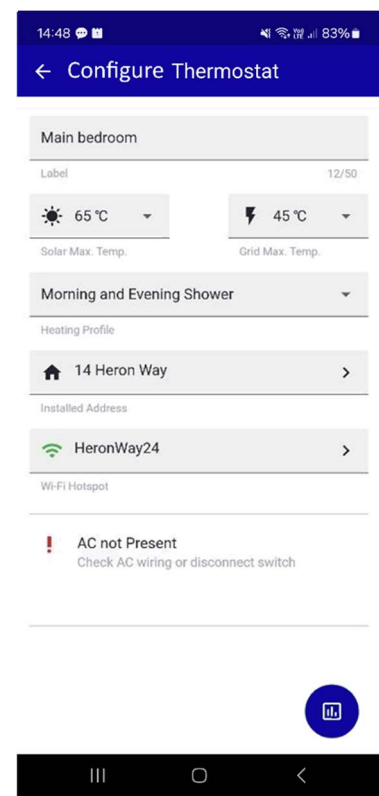

Figure A6 Heating settings
15. The app should take you back to the **“Configure Thermostat”** screen (**Figure A6**).